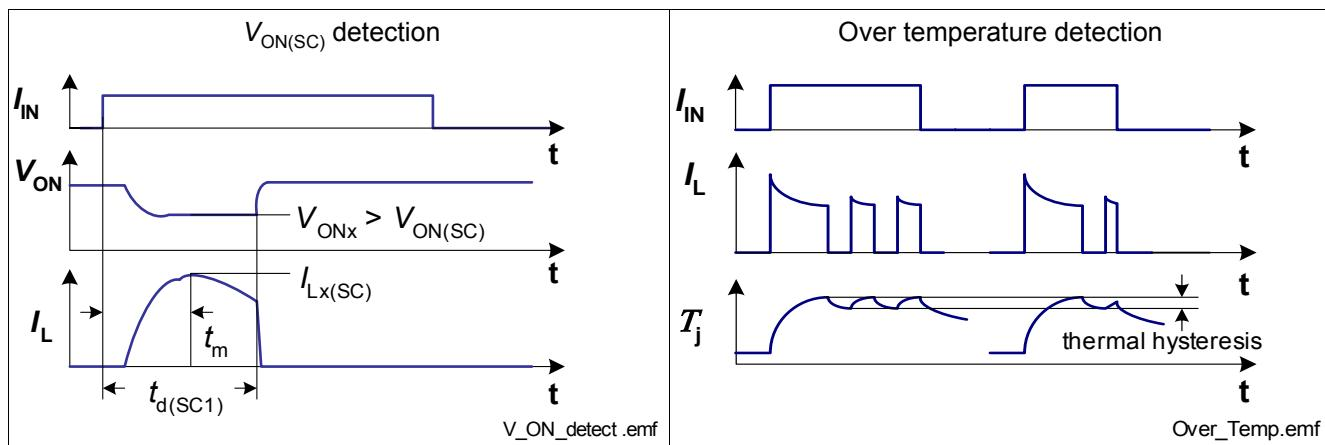
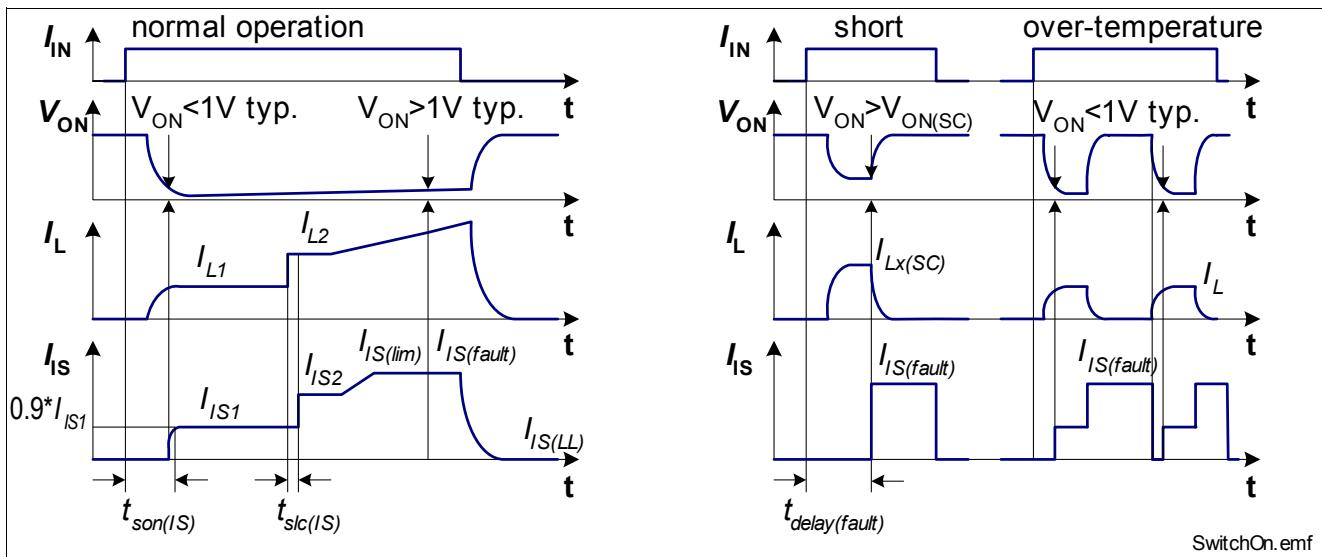

Figure 12 Overload Behavior
Figure 19 Timing of Diagnosis Signal in ON-state
In the event that either the short circuit detection via $V_{ON(SC)}$ is not activated or that the on chip temperature sensor senses over-temperature before the blanking time $t_{d(SC1)}$ expired, the device switches off resulting from over-temperature detection. After cooling down with thermal hysteresis, the device switches on again. The device will react as during normal switch on triggered by the input signal. Please refer to Figure 12 and Figure 19 for details.
- 2) Short circuit current limit for max. duration of $t_{d(SC1)}$, prior to shutdown, see also Figure 12.
Details about timings between the diagnosis signal I_{IS} , the forward voltage drop V_{ON} and the load current I_L in ON-state can be found in Figure 19.